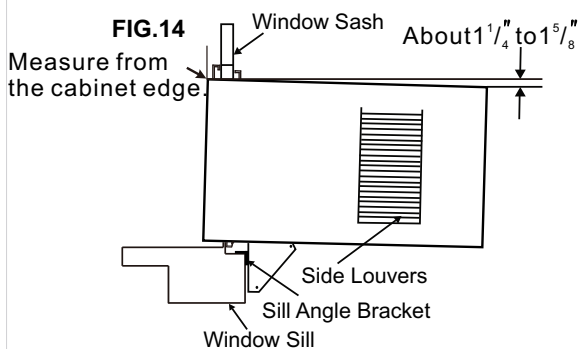

FIG. 14
**NOTE:** Check that air conditioner is tilted back about  $1\frac{1}{4}$ " to  $1\frac{5}{8}$ " (tilted about  $3^\circ$  to  $4^\circ$  downward to the outside). After proper installation, condensate should not drain from the overflow drain hole during normal use, correct the slope otherwise (Fig. 14).
**NOTE:** Check that air conditioner is tilted back about  $1\frac{1}{4}"$  to  $1\frac{5}{8}"$  (tilted about  $3^\circ$  to  $4^\circ$  downward to the outside). After proper installation, condensate should not drain from the overflow drain hole during normal use, correct the slope otherwise (Fig.14).